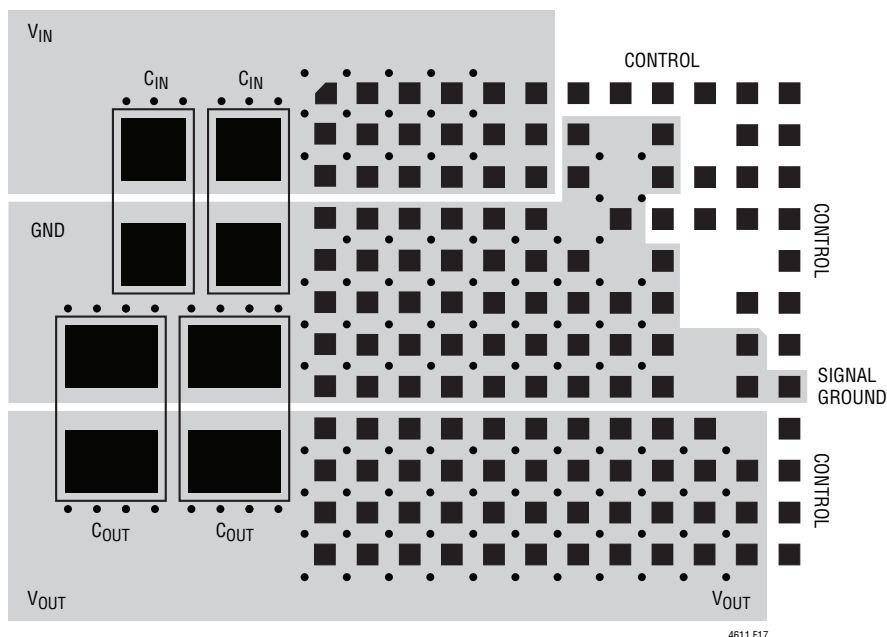

Figure 17. Recommended PCB Layouts
- For parallel modules, tie the respective COMP, V_{FB} , V_{OUT_LCL} , TRACK/SS and RUN pins together. Use an internal layer to closely connect these pins together. Figure 17 gives a good example of the recommended layout. Figures 18 and 19 show schematics of the LTM4611 devices operating in parallel.